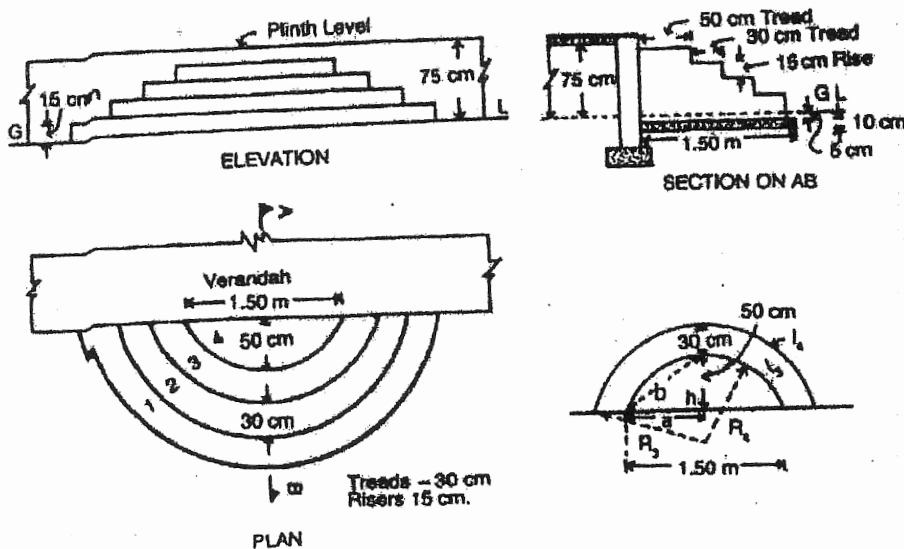

Fig. 2
2. Estimate the following items for the Fig.2 shown below :